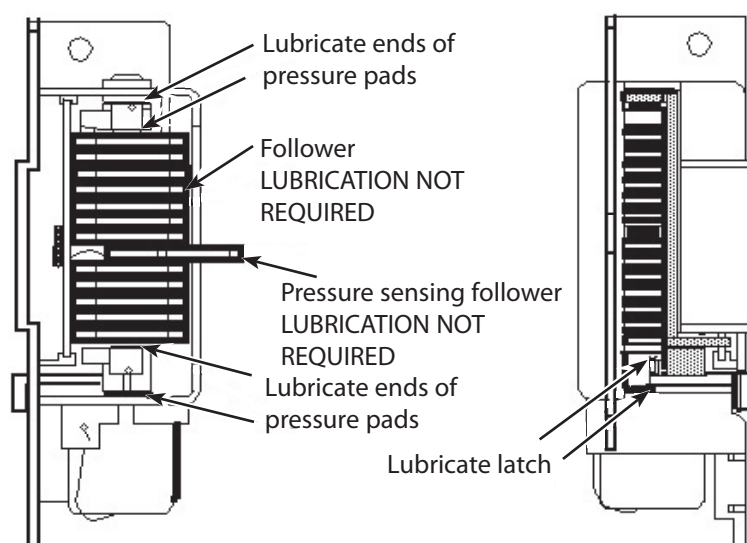

Figure 2-4 Lubricating the Cam Follower Assembly
2. Apply lubricant to both sides of both ends of the pressure pads, and both sides of the cam follower assembly latch, as shown in Figure 2-4 below.